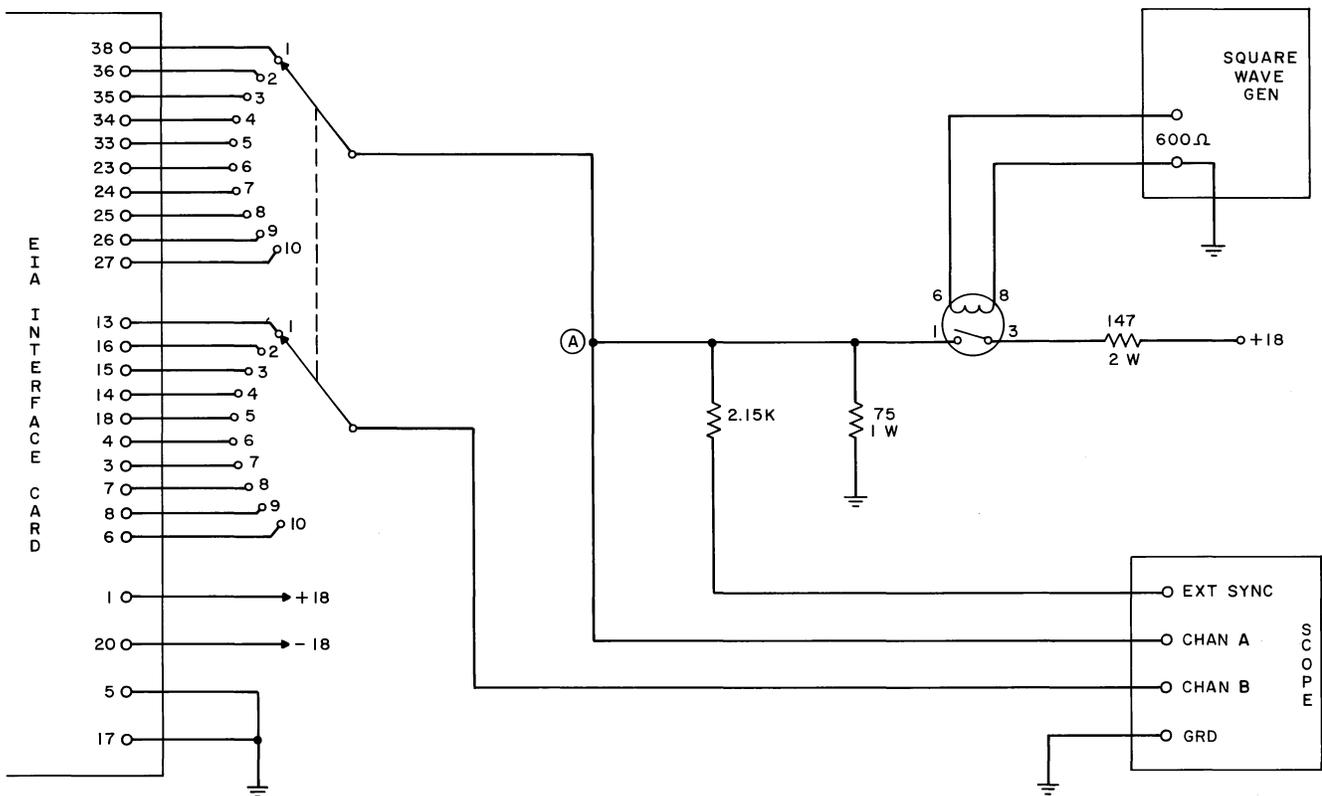

Fig. 34 - (EIA Interface Test)
- (a) With the card connected as in the suggested test circuit shown in Fig. 34, connect ground to terminals 5 and 17, +18 ± 0.5 volts dc to terminal 1, and -18 ± 0.5 volts dc to terminal 20. Temporarily short terminal 1 to terminal 3 of the mercury relay. The voltage between point A and ground should measure +6.0 ± 0.3 volts dc with the voltmeter. Remove the short on the mercury relay and set the frequency of the square-wave generator between 40 and 50 cps. Set the EXT SYNC TRIGGER on the scope to (+) positive.